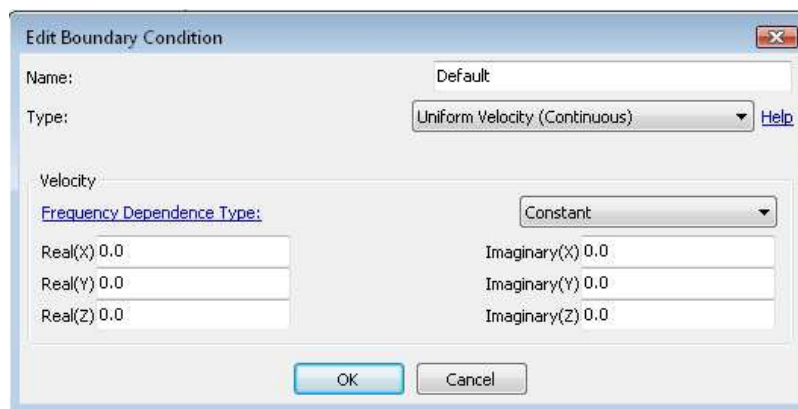

Figure 16: Edit boundary conditions window.
- Right-click on **Default** and select: **Edit...** to make changes to the default boundary conditions applied to all the boundary elements. The window in Figure 16 will appear.